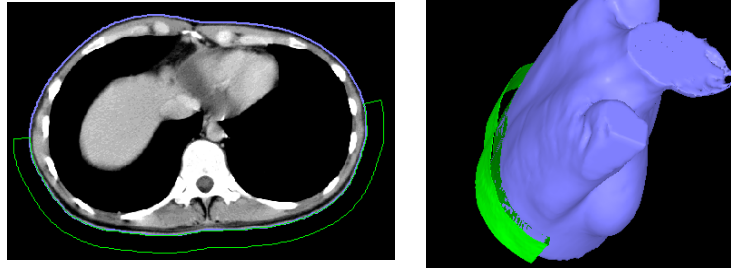

Figure 277 – Generated bolus ROI around the skin surface
5. After the fourth point is defined in the current view, the bolus calculation process starts automatically. The bolus is generated and displayed as contours in the image series and as volume in the 3D view (see Figure 277).